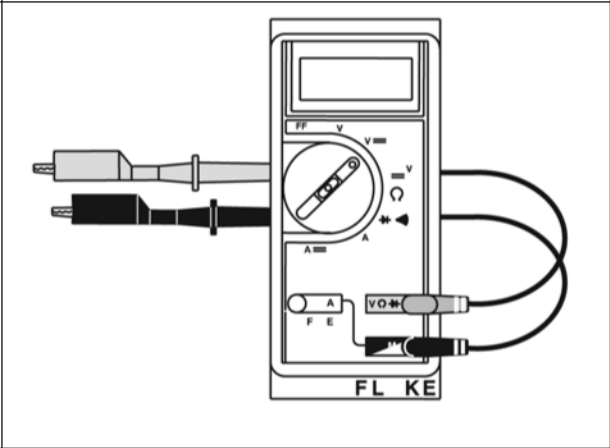

Figure 63
1. Set multimeter to the V== (DC volts) position (Figure 63).